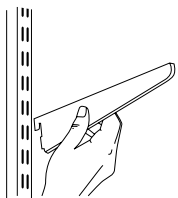

Fig. 1
- 1 Install the Special-purpose Brackets into the slots of either Wall-mount or Top-hung Rails (Fig. 1).